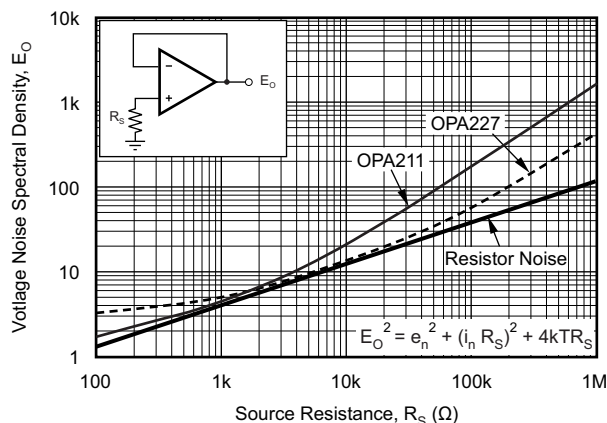

Figure 39. Noise Performance of the OPA2211-EP and OPA227 in Unity-Gain Buffer Configuration
Figure 39 shows total circuit noise for varying source impedances with the operational amplifier in a unity-gain configuration (no feedback resistor network, and therefore no additional noise contributions). Two different operational amplifiers are shown with total circuit noise calculated. The OPA2211-EP has very low voltage noise, making it ideal for low source impedances (<2 kΩ). A similar precision operational amplifier, the OPA227, has somewhat higher voltage noise but lower current noise. It provides excellent noise performance at moderate source impedance (10 kΩ to 100 kΩ). Above 100 kΩ, a FET-input operational amplifier such as the OPA132 (very-low current noise) may provide improved performance. The equation in Figure 39 is shown for the calculation of the total circuit noise. Note that  $e_n$  = voltage noise,  $i_n$  = current noise,  $R_S$  = source impedance,  $k$  = Boltzmann's constant =  $1.38 \times 10^{-23}$  J/K, and  $T$  is temperature in K.
The resistive portion of the source impedance produces thermal noise proportional to the square root of the resistance. This function is plotted in Figure 39. The source impedance is usually fixed; consequently, select the operational amplifier and the feedback resistors to minimize the respective contributions to the total noise.
**Figure 39** depicts total noise for varying source impedances with the operational amplifier in a unity-gain configuration (no feedback resistor network, and therefore no additional noise contributions). The operational amplifier itself contributes both a voltage noise component and a current noise component. The voltage noise is commonly modeled as a time-varying component of the offset voltage. The current noise is modeled as the time-varying component of the input bias current and reacts with the source resistance to create a voltage component of noise. Therefore, the lowest noise operational amplifier for a given application depends on the source impedance. For low source impedance, current noise is negligible and voltage noise generally dominates. For high source impedance, current noise may dominate.